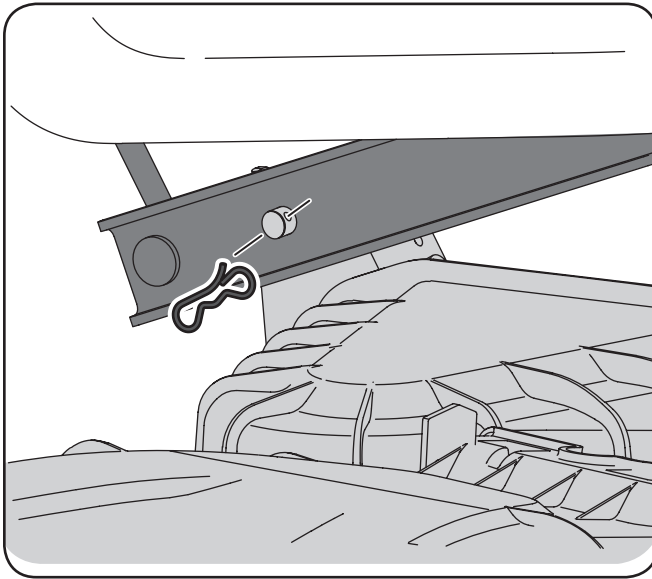

Figure 7-2
6. Looking at the cutting deck from the left side of the tractor, locate the bow pin on the rear left side of the deck. See Figure 7-2.
7. Remove the pin and slide the deck pin out of the deck lift arm. See Figure 7-2.